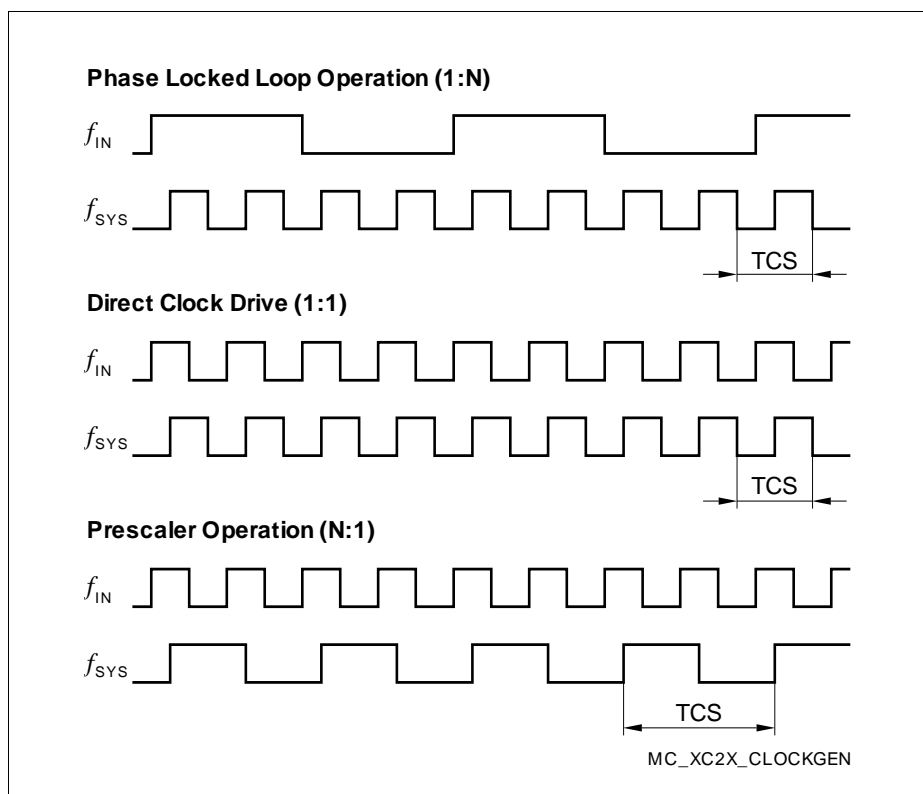

Figure 17 Generation Mechanisms for the System Clock
*Note: The example of PLL operation shown in **Figure 17** uses a PLL factor of 1:4; the example of prescaler operation uses a divider factor of 2:1.*